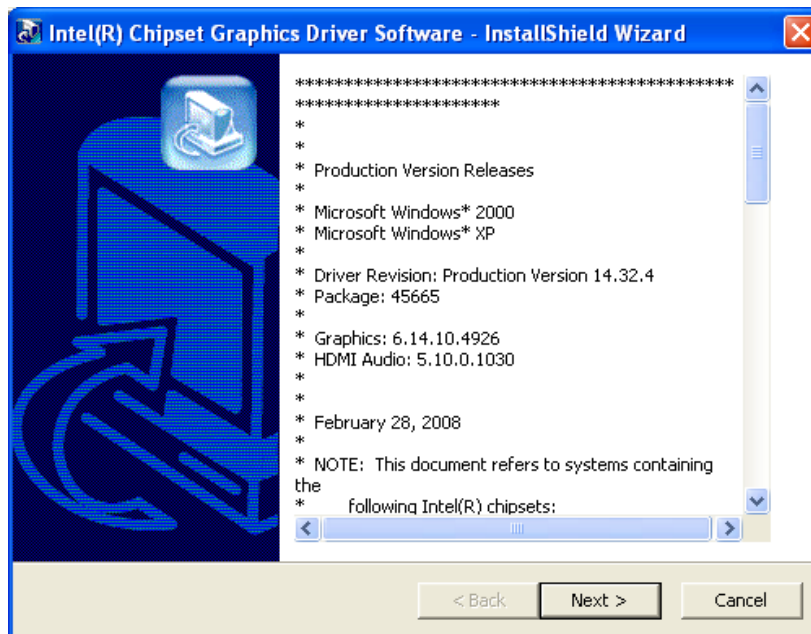

Figure 6-9: VGA Driver Read Me File
- Step 3:** The VGA Read Me file in **Figure 6-9** appears.